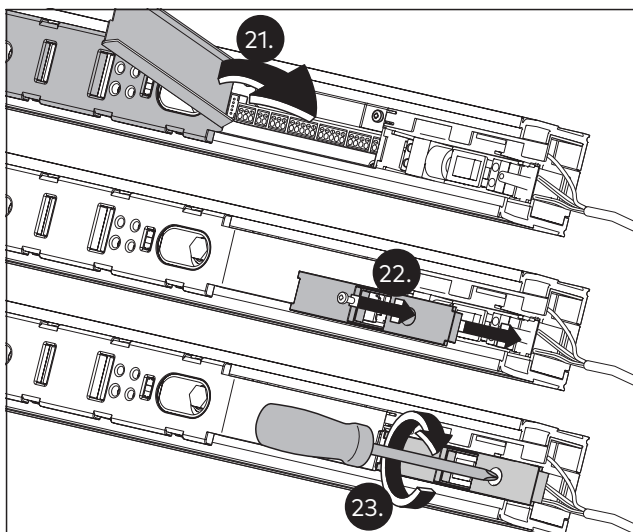

Fig. 26 Closing the cover
21. Close the cover of the control housing on both drives (Fig. 26).
22. Put the cover of the mains connection in position (Fig. 26).
23. Tighten the screws on the mains connection cover (Fig. 26).